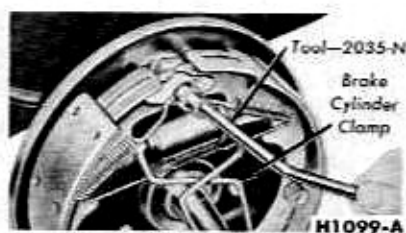

FIG. 12—Retracting Spring Removal
2. Clamp the brake cylinder boots against the ends of the cylinder, and remove the brake shoe retracting springs from both shoes (Fig. 12). The lower retracting spring connects with the coils of the shoe retracting springs.